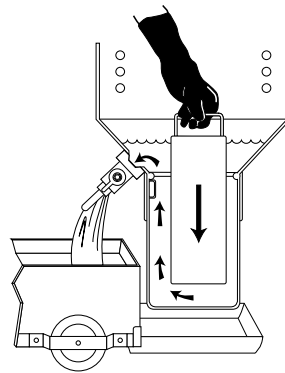

Figure 8
9. Push displacer tool down into fryer collector to force shortening in collector up and out of drain valve (Figure 8).